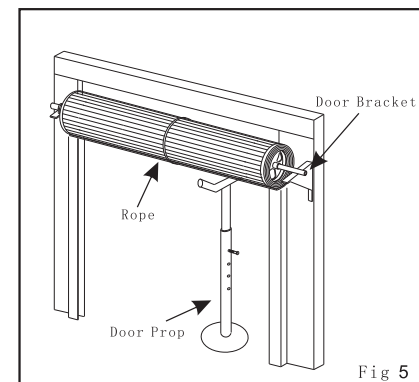

Fig 5
1.1 Roll the door up until the door curtain is out the door guides/tracks and use a rope to firmly tie up the roll in the middle of the door (see Fig.5)